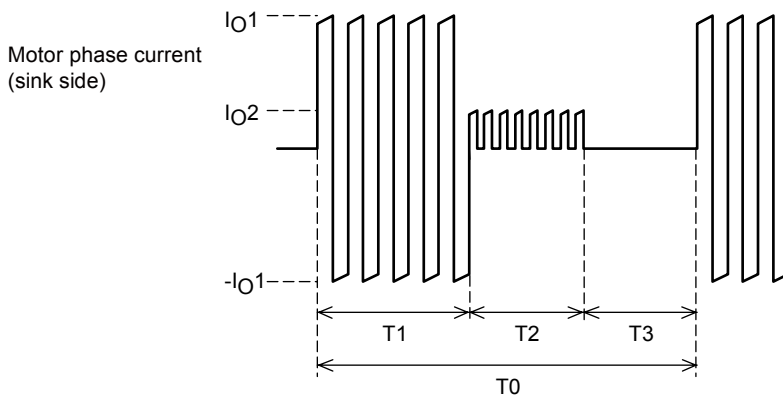
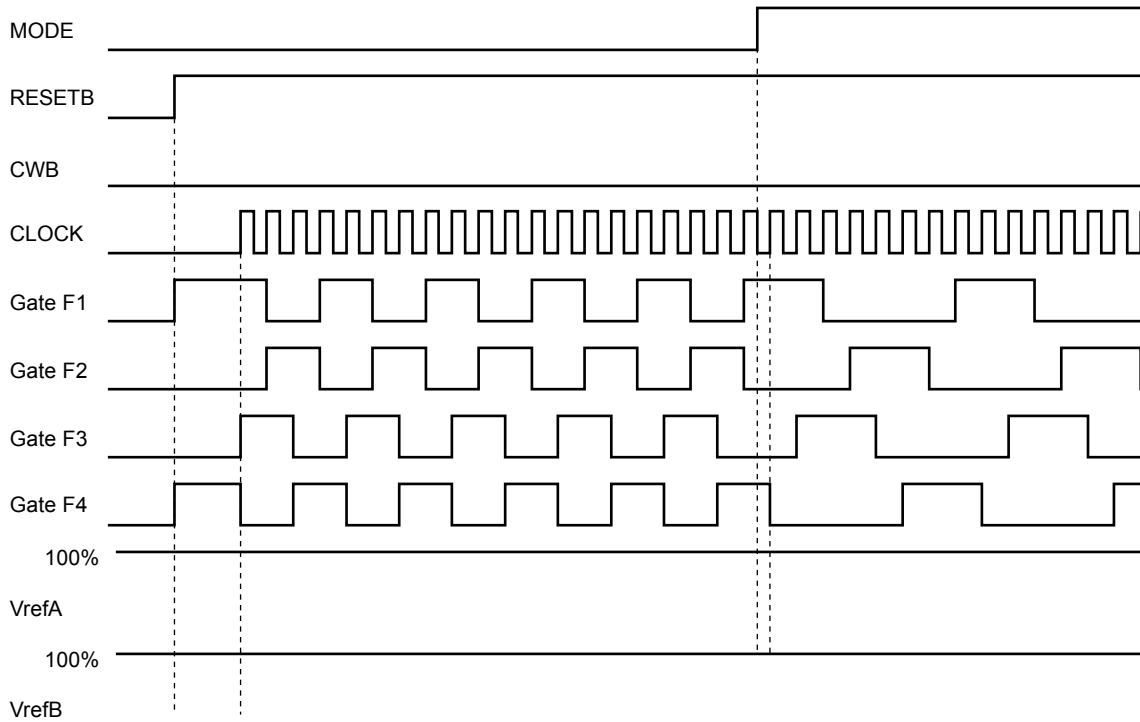

Figure 4 Motor Current Timing
Figure 5 Hybrid IC internal average power dissipation, P_D - Motor current, I_{OH}
As shown in figure 6, the value of ΔTc increases as the hybrid IC internal average power dissipation PD increases. As shown in figure 5, PD increases with the motor current. Here we describe the actual PD calculation using the example shown in the motor current timing chart in figure 4.
Since there are periods when current flows and periods when the current is off during actual motor operation, PD cannot be determined from the data presented in figure 5. Therefore, we calculate PD assuming that actual motor operation consists of repetitions of the operation shown in figure 4.
Note that figure 4 presents the concepts here, and that the on/off duty of the actual signals will differ.
While the operating range when a heat sink is not used can be determined from formula (I) above, figure 5 is merely asingle example of one operating mode for a single motor.
For example, while figure 5 shows a 2-phase excitation motor, if 1-2 phase excitation is used with a 500Hz clock frequency, the drive will be turned off for 25% of the time and the dissipation PD will be reduced to 75% of that in figure 5.